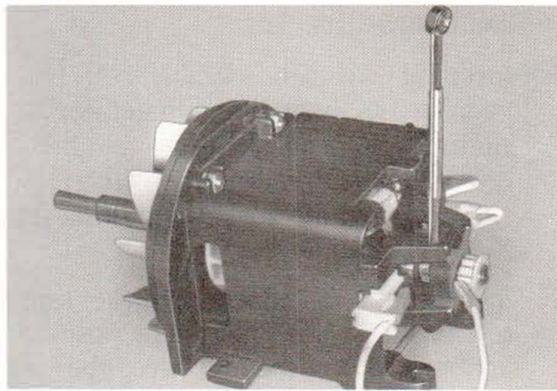

Figure 27. Fan Removal
- A. *See Figure 27.* Place T156, 11/32 inch open end wrench on flats machined in armature shaft near rear bearing.